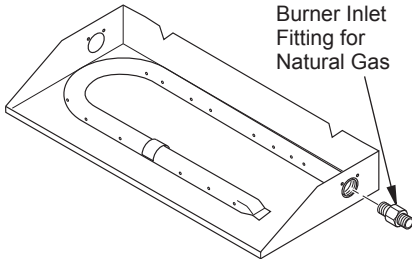

Figure 6
1. Remove the natural gas burner inlet fitting from the burner pan assembly as shown in Figure 6. DO NOT remove the orifice from this fitting.